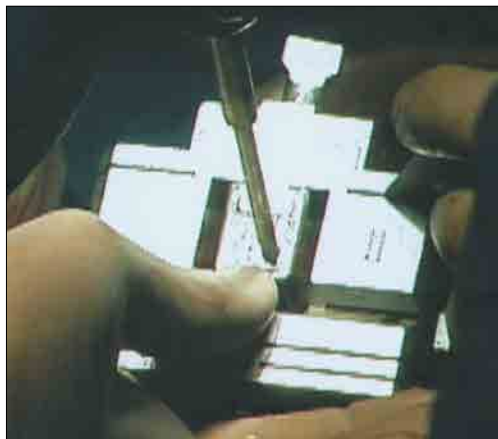

Figure 22
- Using 4mm ball hex driver position femoral cutting guide for optimal placement of the femur with respect to the canal (Figure 22)